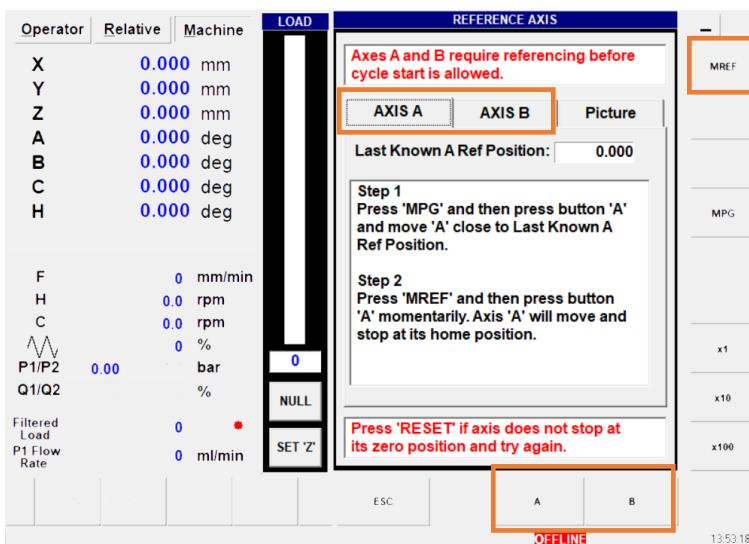

Figure 15 - Reference axis A
- When complete and the MACHINE POSITION displays 0.000 mm for the A-axis, now perform the same operation for the B-axis. See (Figure 15 - Reference axis A).